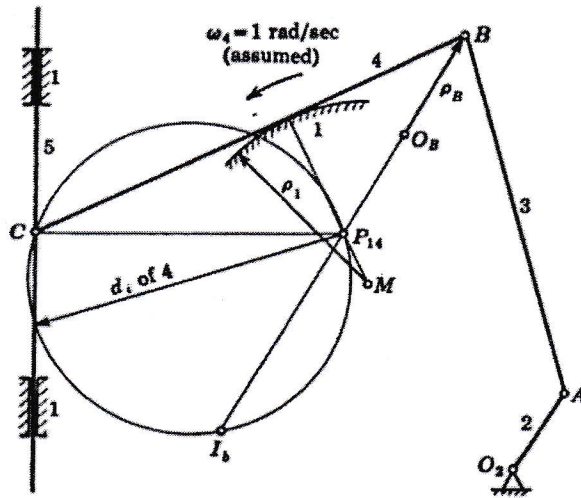

Figure 2
- b) The below figure 2 shows the skeleton of a certain steam valve actuating mechanism whose input crank 2 revolves at constant speed. Determine the angular acceleration of link 4 and acceleration of C. [4+6]